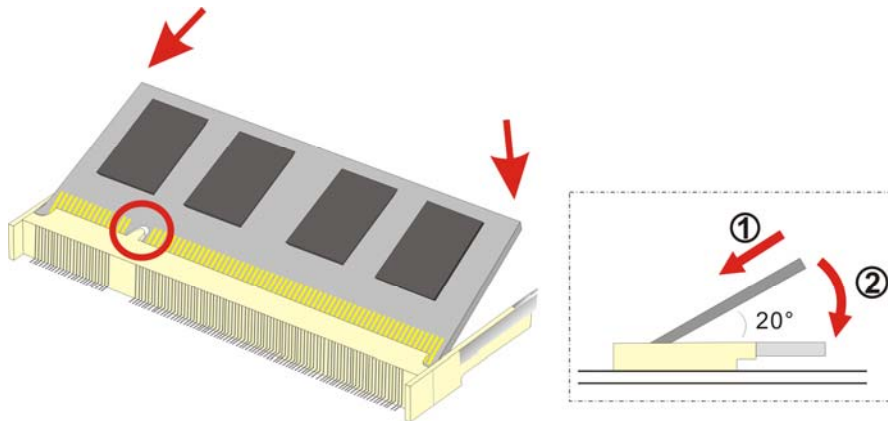

Figure 3-7: SO-DIMM Module Installation
(See **Figure 3-7**)
Step 4: Gently pull the arms of the SO-DIMM socket out and push the rear of the SO-DIMM module down. (See **Figure 3-7**)